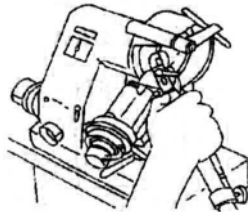
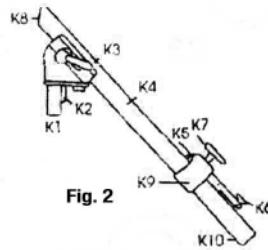

Fig. 1
Fig. 2
Cutter profiles having either on-center or off-center radii are derived from cylindrical single-lip cutters having a straight end cutting edge by rounding off the corner as shown in Fig.1(No.2 and 3 profiles).
2. a. No.2 profile : Release clamping lever T1; rotate knurled knob S4 to set cross slide by means of vernier scale C1 for desired radius (to the right); tighten clamping lever T1,9 see Fig.2) as the radius corner is required to be tangent to the cutter diameter, the amount of off-set
Where pointed cutters are concerned, both the included angle of the point and the aback rake angle are produced in one operation (see Fig. 1). The back rake angle should be selected to suit the material to be cut.(see page 5)
4. Release clamping levers T3 and T6 hold index drum F against stop and, beginning at zero position. Set swivel arm at one half the desired point angle (see Fig.2).
5. a.No.5 profile 9 Fig. 1 and 2):Release clamping lever T1; rotate knurled knob S4 to shift cross slide to the right by one-half of dial the taper ('a'in Fig.1). For this purpose use cross slide vernire scale T.Tighten clamping lever T1.
c.No.7 profile (Fig. 1 and 3):Set cross slide vernier scale at zero.
The back rake angles of the side and end cutting edges may be ground immediately after circular grinding the desired cutter profile; or in cases where only the taper angle (not, however, the small diameter of the tapered portion) is of importance, grinding may be performed in an independent operation. Where the small taper diameter must be held within close tolerances, only the end cutting face will be ground; in this case the cutter will have to be by gauge C and clamped in position. The back rake angles of the side and end cutting edges should be selected to suit the material to be cut. For toll angles refer to Fig. 1.
2. Release clamping lever T2 using scale S2 set cutter at desired back rake angle; tighten clamping lever T2, see Fig.2.
4. While continuously rotating the collet bearing through 180° (back and forth between the stops), advance the cutter towards the grinding wheel by means of fine adjustment screw H. This will produce the desired back rake angle in a positively controlled operation (see Fig.2). Upon completion of the grinding operations on the side cutting edge, a very narrow land must remain at the edge.
Tapered cutters having either an off-center or an on-center radius can be given a back rake angle only in connection with the circular grinding operation (see Fig.1). The back rake angle of the side cutting edge equals that of the straight or coudec end cutting edge; the proper angle to be used will be found in page 5. After tapered cutters with rounded end cutting edges have become dull, first proceed with the circular grinding operation described on page 12; then follow the procedure indicated below.
3. With grinding wheel; tighten clamping lever T7, taking care to keep index mark of vertical swivel mount aligned with tubular guide; release clamping lever T4. (see Fig.2).
To mount the attachment (see Fig.2), attach a 12 mm (1/2") spring collet to locating pin 1 and insert the collet into the index head slide of the index head bracket, introducing retaining pin 2 into the bore of the off-side setting gauge. Adjustable stop 5 has a flat surface on one side for holding twist drills of 3 to 18mm (1/8" to 11/16") diameter. The drill is held by hand against stop 5 and the swivel-mounted V-guide 4 during grinding (Fig.1). After backing off clamping screw 7, stop 5 with ring 999 can be pulled off (depress catch 10) and mounted in reverse position. This permits clamping of small drills (3 to 6mm or 1/8" to 1/4" dia.) by means of clamping screw 6, since experience has shown that such drills are difficult to hold by hand grinding.